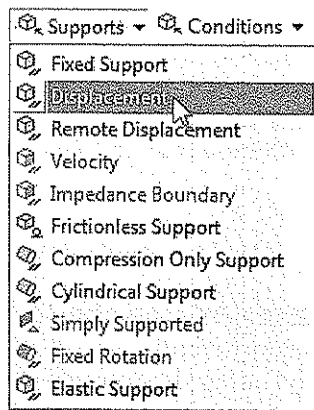

Figure 9-57 Choosing the *Displacement* tool from the *Supports* drop-down
8. Choose the **Displacement** tool from the **Supports** drop-down in the **Environment** contextual toolbar, as shown in Figure 9-57; **Displacement** is added under the **Static Structural** node in the Tree Outline. Also, the **Details of “Displacement”** window is displayed.